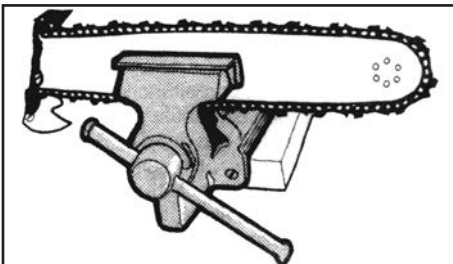

Fig. 19
Limbing is the process of removing the branches from a fallen tree. Check the direction in which a branch will bend before cutting it. Always cut on the opposite side to the bending direction so that the guide bar is not pinched in the cut. For large limbs that cannot be removed in one cut, make an initial cut from the bent side and finish by sawing from the opposite direction (Fig.19). Do not remove limbs that are supporting the fallen tree on the ground until the tree has been cut into lengths.
2. Fasten the bar in a vice so that the chain can slide (Fig.19)